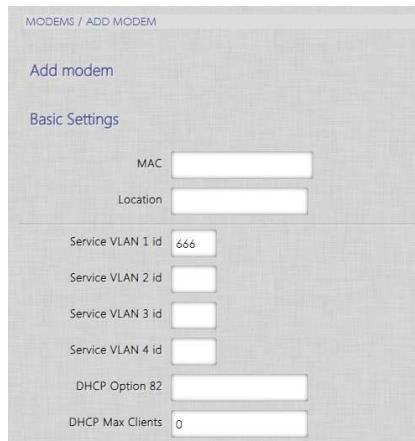

Figure 7 — Add Modem - Basic Settings.
In the field Location you can enter the real location of the *Modem* in the building. (See *Figure 7* and *Table 3*.) Please note that this can be in conflict with General Data Protection Regulation (GDPR). Before you enter any information about the location make sure that it is in agreement with GDPR and/or any local legal aspects. Also note that there may be security aspects that can affect what kind of information could be in the database.
3. Click on **ADD MODEM** in the **Options** menu to the right. (See *Figure 7*.)